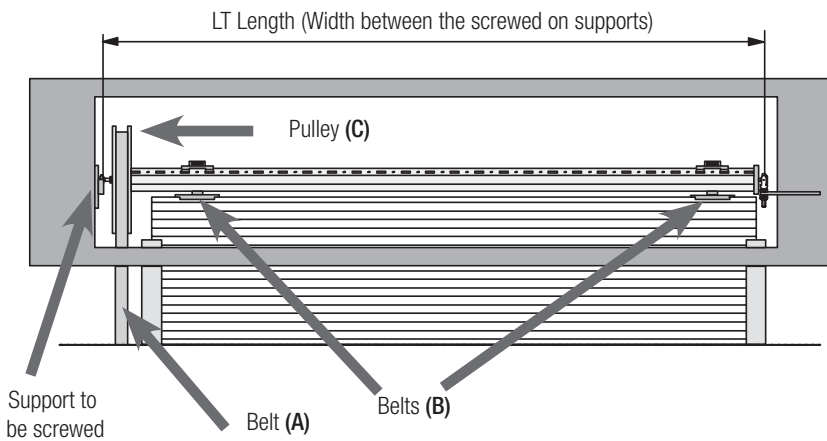

Fig. 5
2. Separate the belt (fig. 5 ref. A) from the pulley (fig. 5 ref. C) and release the belts (fig. 5 ref. B) from the existing roller.